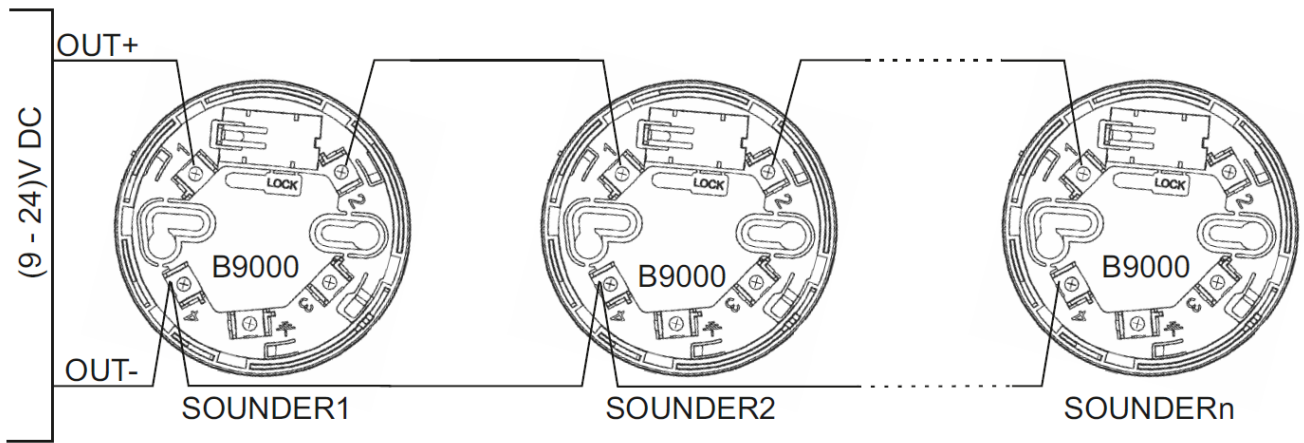

Fig.1
- Connect the electrical cables according to the attached diagram (Figure 1) ;